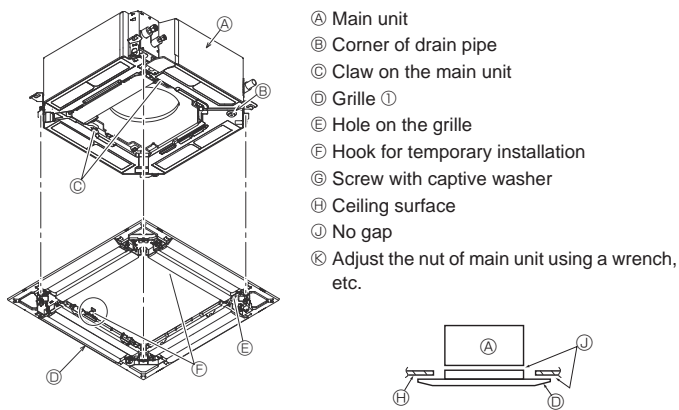

Fig. 9-6
### 9.4.2. Temporary installation of the grille (Fig. 9-6)
- By tightening the pre-installed screws, fix the grille onto the main unit. (Fig. 9-6)
Make sure there is no gap between the main unit and the grille or between the grille and the ceiling surface. (Fig. 9-6)
- After tightening the screw, confirm that the two grille hooks (Fig. 9-6) are latched onto the hooks on the main unit.